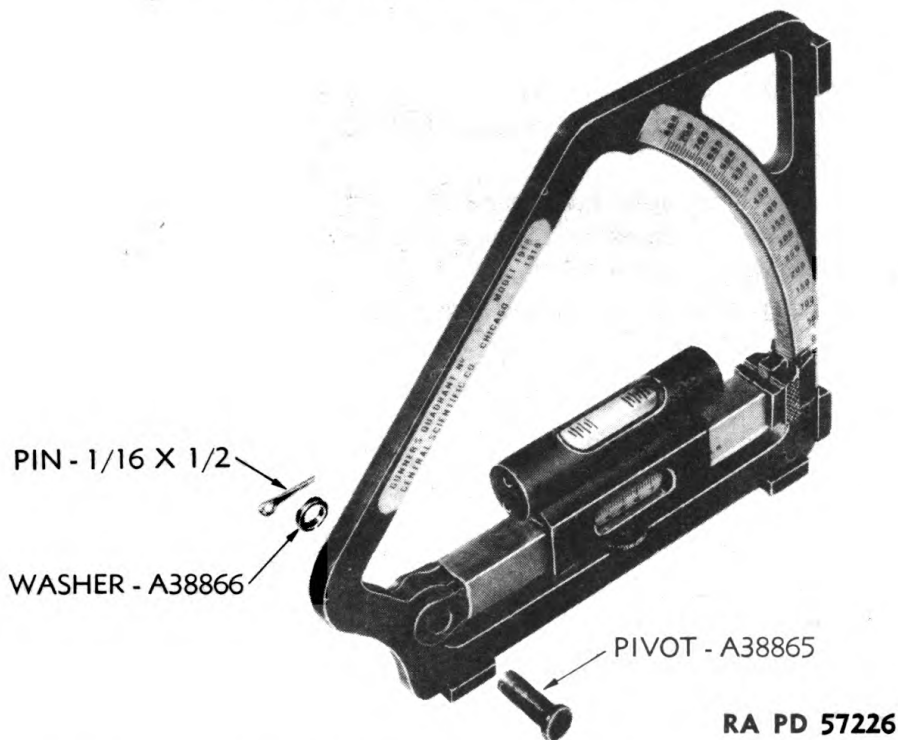
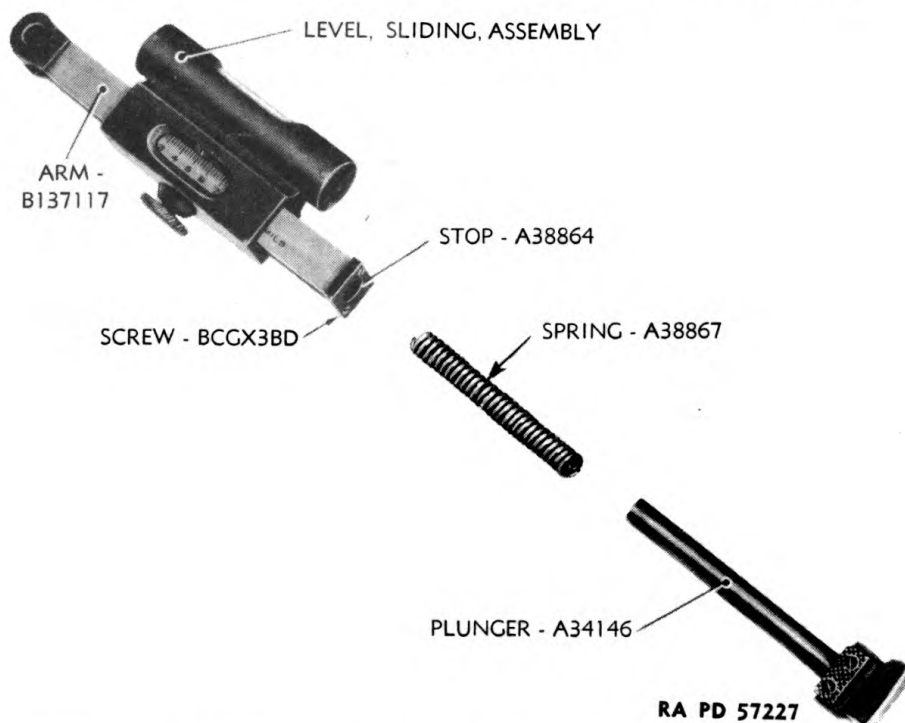

Figure 14—Gunner's Quadrant M1918—Pivot Removed
Figure 15—Gunner's Quadrant M1918—Plunger and Plunger Spring Removed
- (1) Screw level vial tube plug in until pinhole in plug is in line with the holes in the level holder.
- (2) Drive pin through level holder and level vial tube plug, and secure.
a. Remove Arm (fig. 14).
- (1) Remove the cotter pin from the pivot on the right or rear side of the instrument, and remove brass washer.
(2) Drive the pivot from the arm and frame assembly.
(3) Set the arm at zero reading on the elevation scale, raise the pivot hole end of arm out of position, and lift out arm and plunger as an assembly.
b. Remove Plunger (fig. 15). Lift plunger out of arm, and allow plunger spring to drop out. **NOTE:** On some plunger assemblies, the plunger plates on the end are secured with screws and can be removed, while other plungers are manufactured in one piece.
(2) Insert level spring, with rivet head down, over clamping screw-head.
(3) Holding level spring in position, push arm through level guide.
(4) Place sliding level stop on end of arm, and secure with two screws.
d. Install Plunger in Arm (fig. 15).
(1) Drop plunger spring into arm.
(2) Coat plunger stem with a thin film of OIL, lubricating, for aircraft instruments and machine guns, and place plunger stem into arm.
e. Install Arm (fig. 14).
(1) Turn plunger in arm so that the beveled plunger plate edges face upward.
(2) With plunger, compress plunger spring and arm near zero on elevation scale. Push arm into position over frame. Do not release plunger until pivot holes in arm line up with pivot hole in frame.
(3) Apply one or two drops of OIL, lubricating, for aircraft instruments and machine guns, to pivot, and drive pivot through holes from the back of the instrument.
(4) Place brass washer over pivot in front of instrument, and secure pivot with cotter pin.